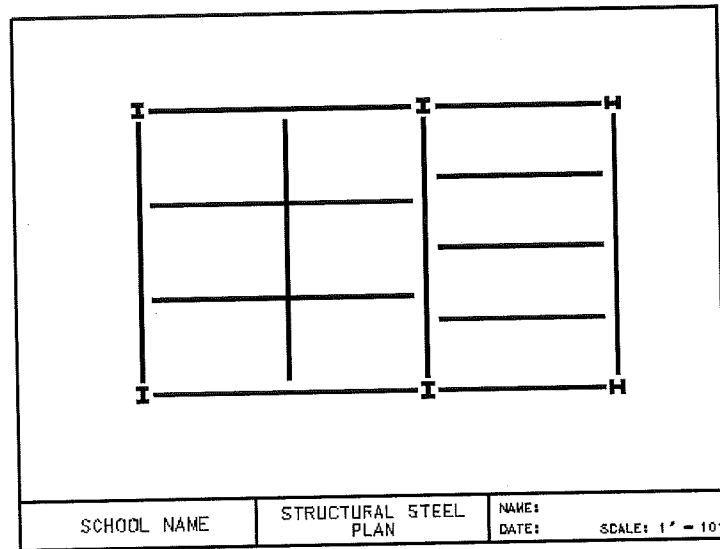

Figure P6-11 Place three parallel copies of the top right horizontal line, each 6' apart below the line
STEP 4: Make three parallel copies of the top right horizontal line, each 6' apart below the line, as shown in Figure P6-11.